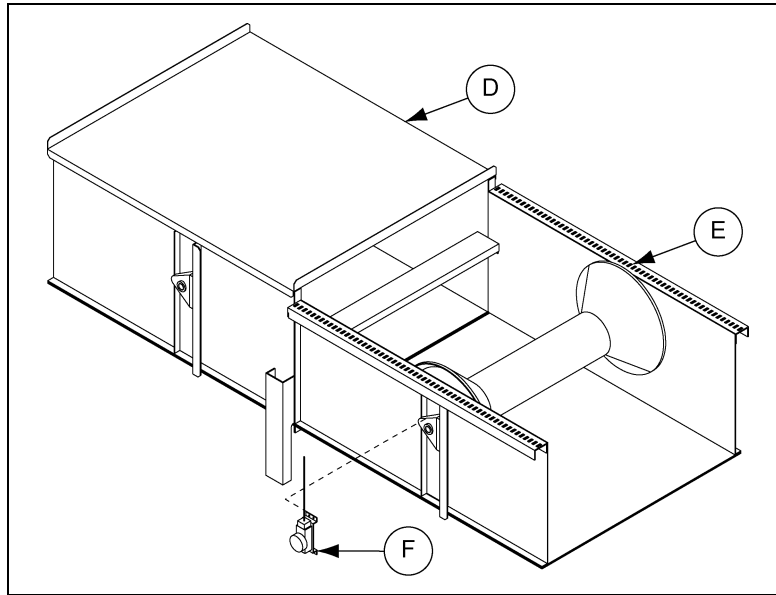

Figure 4AB *Limit Switch Location*
Two (2) limit switches will need to be installed at the beginning and end of the travelable plow sections (E). Figure 4AB demonstrates how the limit switch and supplied mounting bracket need to be field located and attached to the side of the conveyor. Typical mounting locations include either the side panel or the bearing bracket.